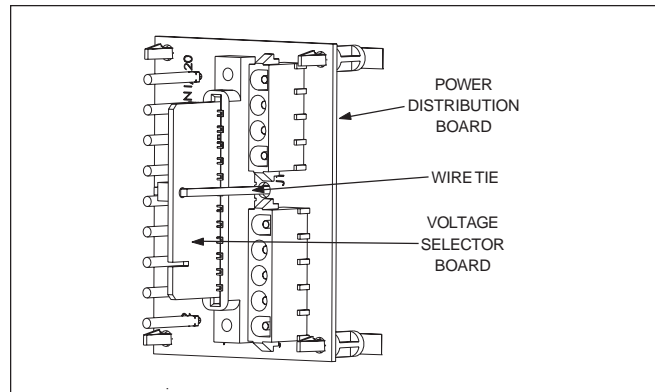

Figure 21. Power Distribution Board With Voltage Selector Board Installed for 230 VAC
2. Cut the plastic wire tie that is holding the voltage selector board in place and discard the wire tie. Unplug the voltage selector board from the receptacle (see Figure 21).
An interrupt (on/off) type remote can be connected by removing the jumper wire on the terminal block located in the control compartment (see Figure 21) and connecting the two wires from the remote to the two terminals on the terminal block. This type of remote control will turn the heater on or off, but will not perform any other function.